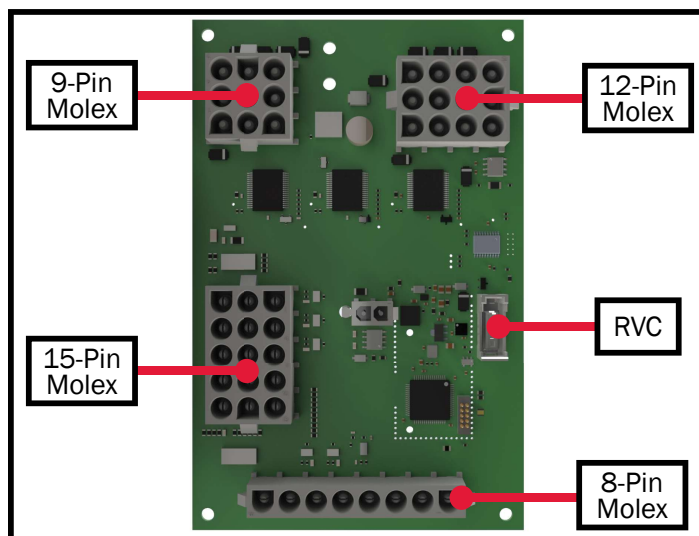

Figure 32
- Ensure the controller is properly oriented - reference Figure 32.